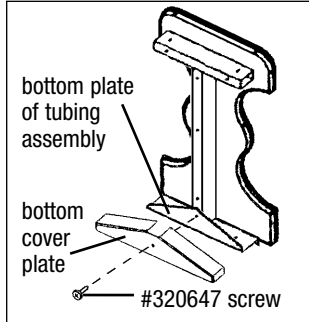

Figure 3
- Align designated hole in bottom cover plate with bottommost hole in tubing assembly. Using one #320647 screw, secure bottom cover plate to bottom plate of tubing assembly – see *Figure 3*. Screw through bottom cover plate and into oak side panel.